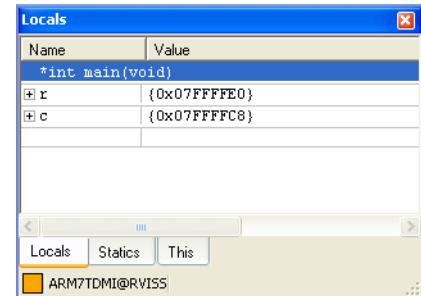

Figure 13-8 Locals tab in the Locals view
1. Select **Locals** from the **View** menu to display the Locals view. Figure 13-8 shows an example:
1. Select **Locals** from the **View** menu to display the Locals view. Figure 13-8 on page 13-15 shows an example.